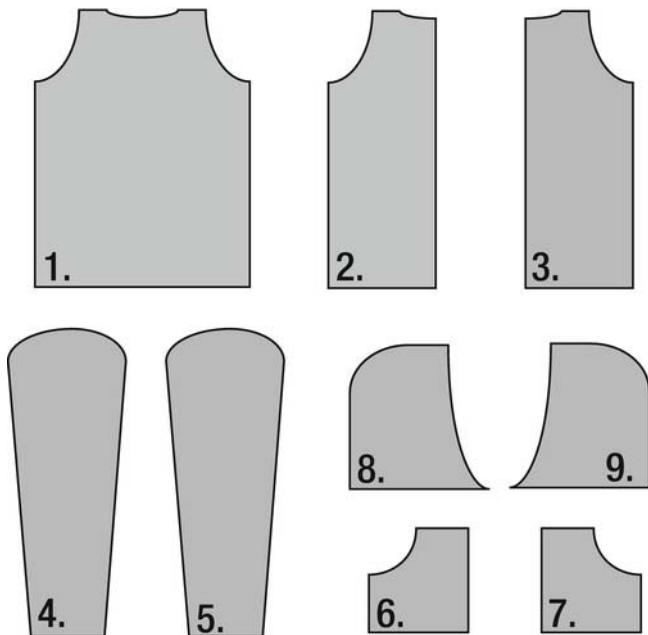
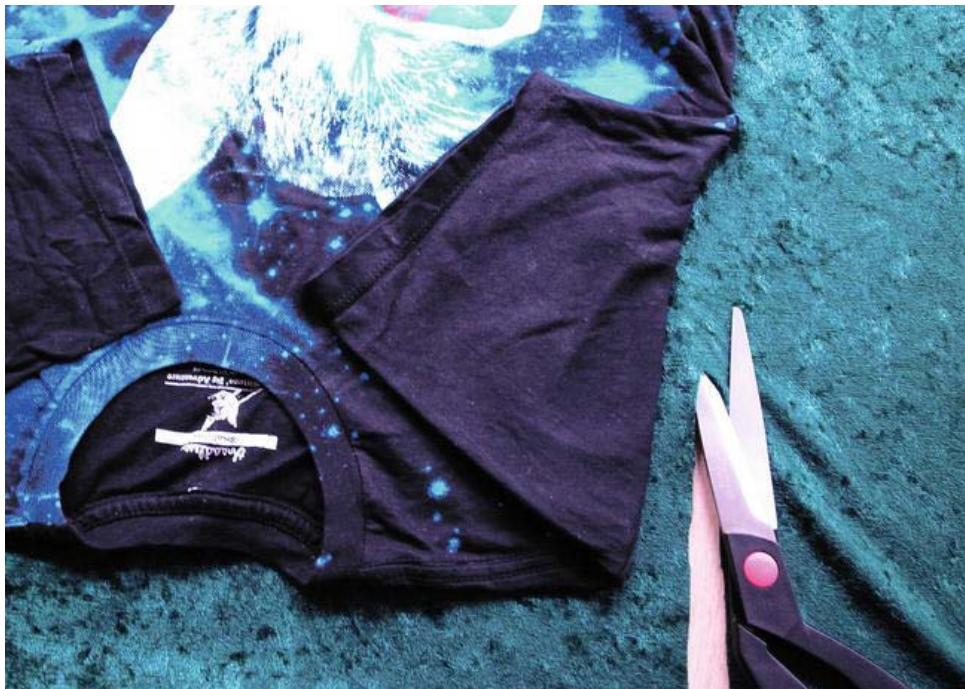

Figure 9-1. Zip hoodie pattern
Figure 9-2. Using a T-shirt for measurement
Start by cutting out all the pieces needed for the hoodie. Figure 9-1 shows the suggested shapes for a zip/button hoodie. I have not included any measurements for this pattern since it's hard to assume a design that will fit all people.
The hoodie's individual pattern pieces, shown in Figure 9-1, are as follows:
- *The back of the hoodie (piece 1 in Figure 9-1).* Start by placing your T-shirt on the fabric of your choice with the arms of the T-shirt folded in, as shown in Figure 9-2. Then cut around the edges, adding about 2 centimeters around the shape.
- *The pockets (pieces 6 and 7).* Now you cut the pockets. Remember that the shape in Figure 9-1 is just a suggestion that you can modify according to how deep and big you want your pockets. Cover the rounded edge with some rib knit fabric.